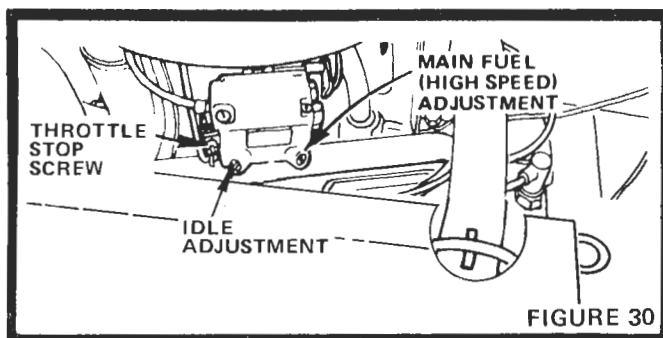

FIGURE 30
- Main Fuel (High Speed) Screw (Fig. 30) should not require adjustment. If resetting is necessary, turn clockwise, closing finger tight ONLY, then turn counterclockwise 1 - 1/8 to 1 - 3/8 turns.
- Turn Idle Adjusting Needle (Fig. 30) clockwise, closing finger tight ONLY, and then turn counterclockwise 7/8 to 1 - 1/8 turns.
- Throttle Stop Screw (Fig. 30) should not require adjustment. If resetting is necessary, set to obtain the slowest engine speed that will allow smooth acceleration.